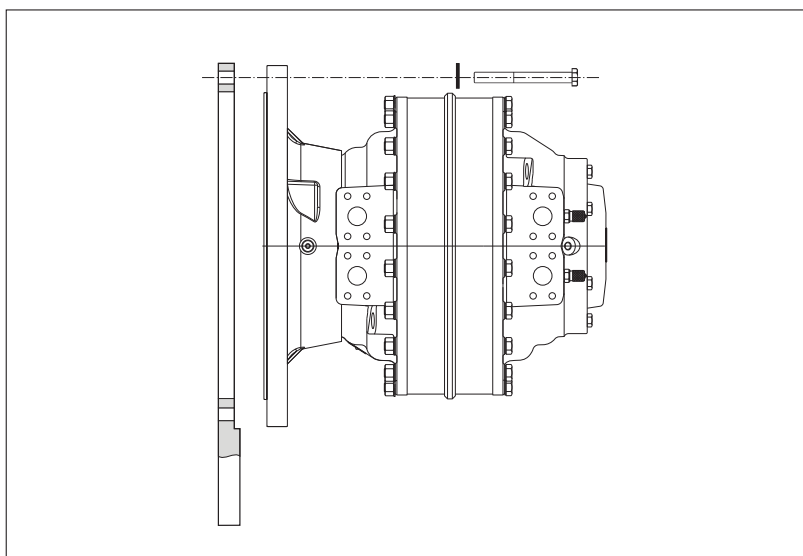

Fig. 3.11 CBP 140
- Mount screws according to fig. 3.11.